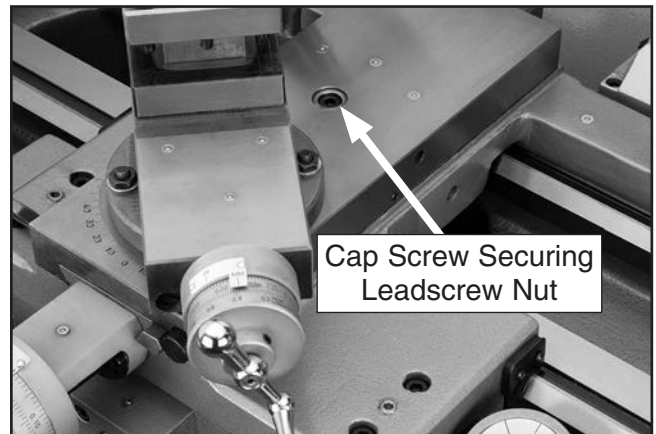

Figure 122. Location of cap screw on typical cross slide that secures leadscrew nut.
3. Remove cap screw that secures cross slide leadscrew nut (see **Figure 122**).